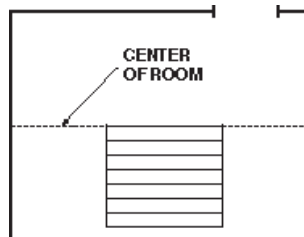

Fig. 1 – Dry layout to determine width of border plank/tile.
- Determine which direction the planks/tiles will run. Find the center of each of the end walls (the walls perpendicular to the long dimension of the planks/tiles) and place a pencil mark on the floor. Connect these points by striking a chalk line down the center of the room. Do a dry layout of planks/tiles from the center line to the wall running parallel to the long direction of the planks/tiles to determine the width of the last row of planks/tiles. (Fig 1).